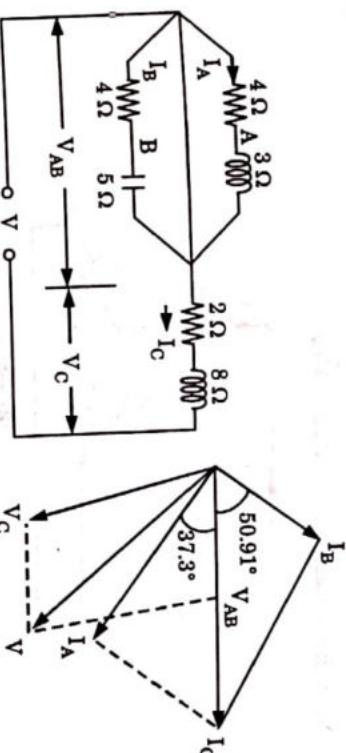

FIG. 2.36.2
9. Various voltages and currents are shown in Fig. 2.36.2. Powers would be calculated by using voltage conjugates.